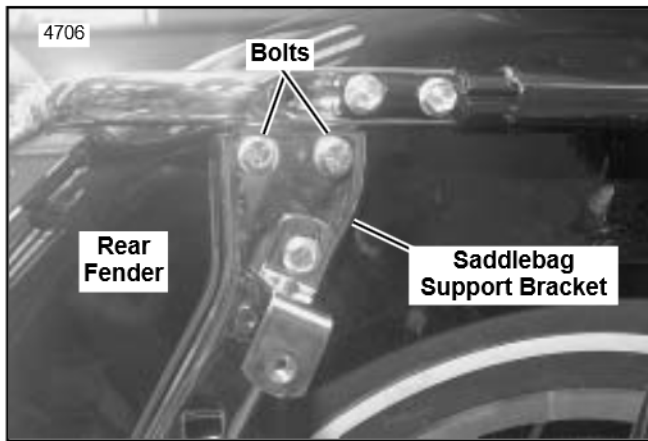

Figure 4. Remove Upper Saddlebag Support Bracket Bolts
6. See Figure 4. Locate two bolts securing upper flange of saddlebag support bracket to rear fender.